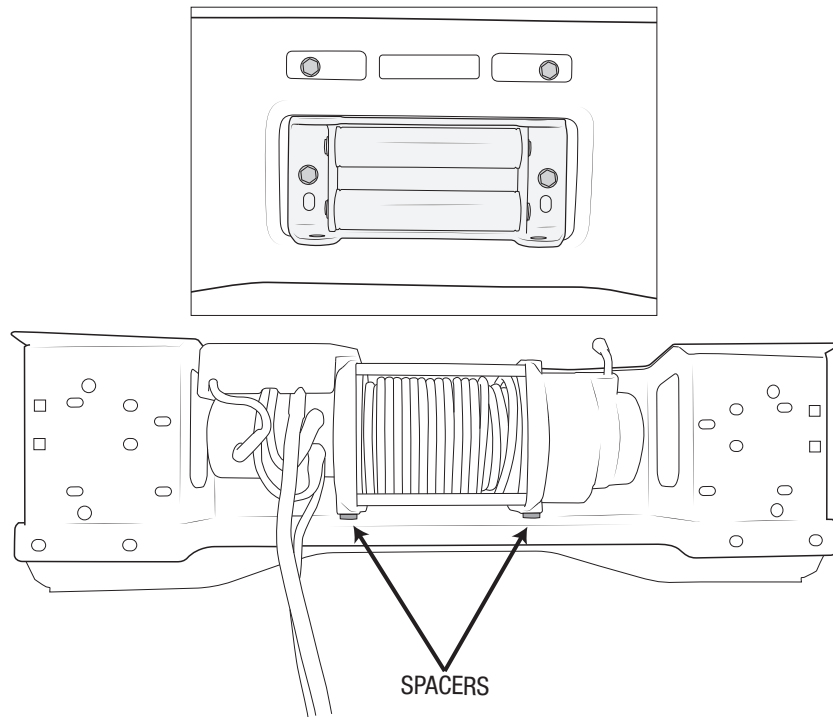

Figure 15
5. If installing a Warn 16.5 winch, install the winch and fairlead using fasteners provided in the winch kit. Torque as instructed by the winch manufacturer. Use the AEV provided spacers (PN: 10308012) between winch and bumper (fig. 15). **NOTE: For Warn M12000 or M15000 winches see Appendix A. For Power Wagon winches see Appendix B.**